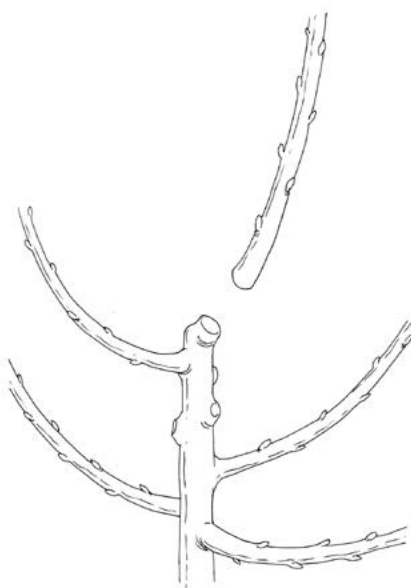

Figure 30
- Select smaller and weaker wood as permanent branches for SL trees on vigorous rootstocks. Thin out very strong wood (Figure 30).